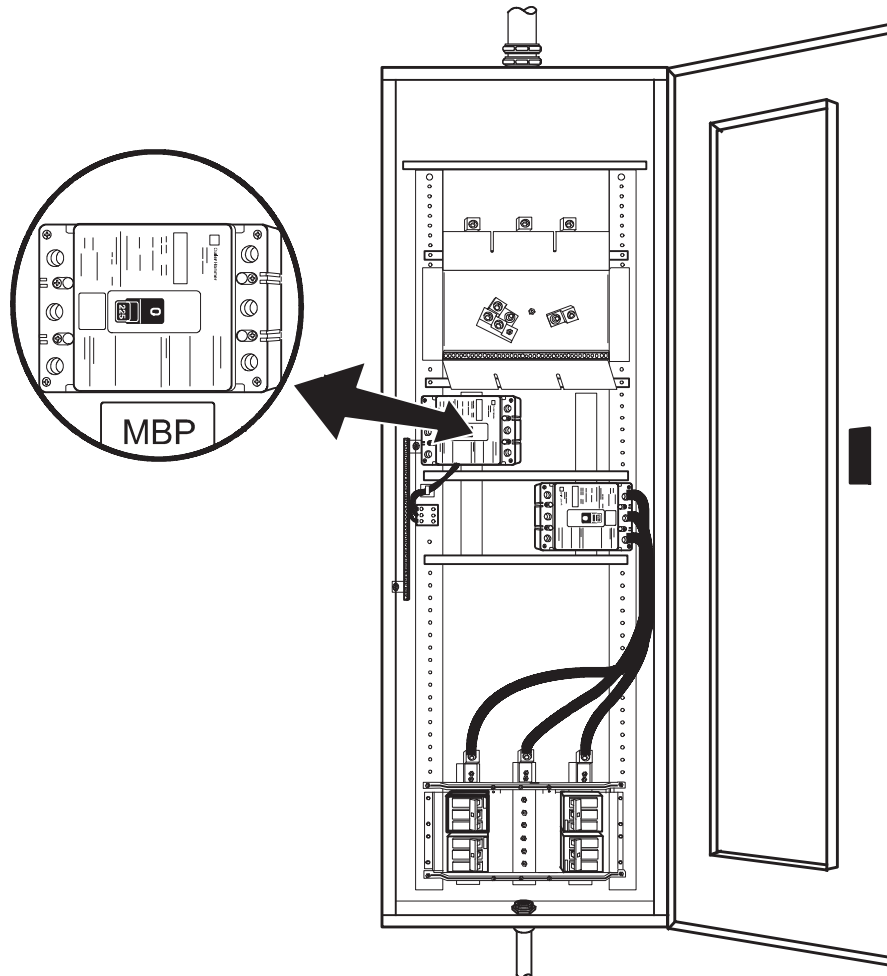

Figure 31. Version 2 Bypass Cabinet Bypass Breaker
9. Verify that the bypass breaker is in the OFF position (see Figure 31).